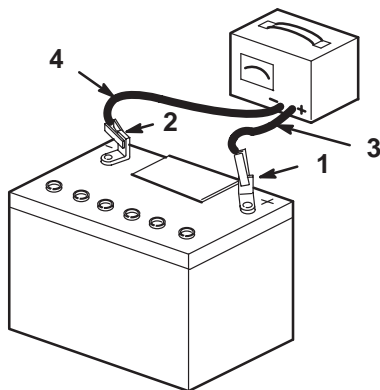

Figure 18
4. When the battery is fully charged, unplug the charger from the electrical outlet, then disconnect the charger leads from the battery posts (Fig. 18).